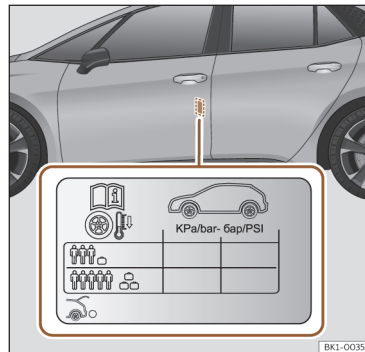

Fig. 179 Location of the tyre pressure sticker.
- Adjust tyre pressure to the load being carried by the vehicle >>> **Fig. 179**.
The values of the tyre pressure are shown on the sticker label located on the rear frame of the front left door >>> **Fig. 179**.
The tyre pressure must be adjusted according to the load the vehicle is carrying. If the vehicle is going to be fully loaded, increase the tyre pressure to the maximum load value shown on the sticker label >>> **Fig. 179**.
In the case of a minimised temporary spare wheel (125/70 R16 or 125/70 R18) inflate to a pressure of 4.2 bar as indicated on the tyre pressure label >>> **Fig. 179**.
- The driver is responsible for ensuring that all of the vehicle tyres are correctly inflated to the right pressure. The recommended tyre pressure is indicated on the label >>> **Fig. 179**.
• Tyre pressure should be that indicated on the label when the tyres are cold at all times >>> **Fig. 179**.